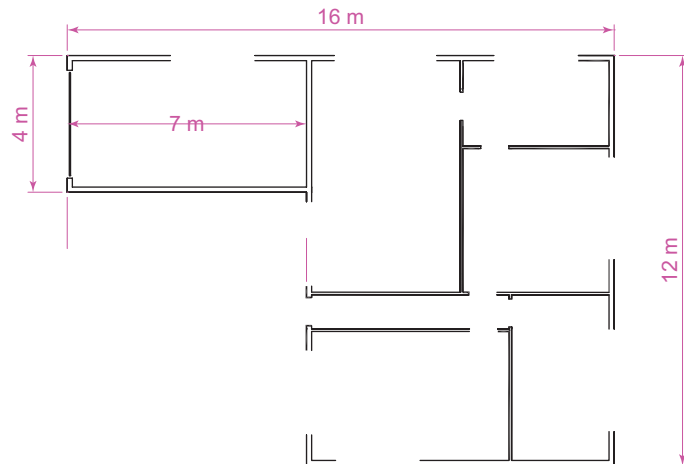

Fig. 9.5 First example – inserting blocks. Outline plan
Ensure that all the symbols saved as blocks using the **Create** tool are saved in the data of the drawing in which the symbols were constructed, erase the drawings of the symbols and in their place construct the outline of the plan of a bungalow to a scale of 1:50 (Fig. 9.5). Then:
3. With the outline plan (Fig. 9.5) on screen the symbols can all be *dragged* into position from the **DesignCenter**.